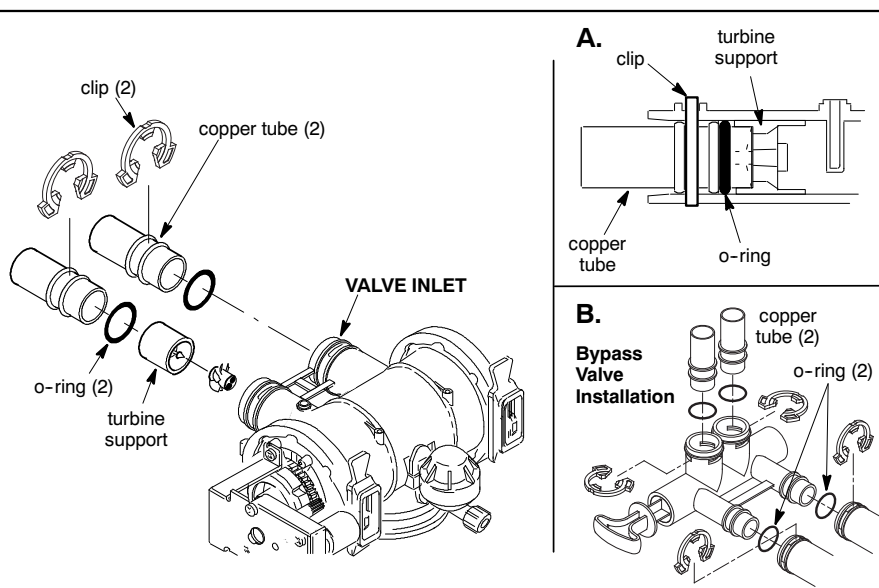

FIG. 5
b. Slide a lubricated o-ring seal onto each of the copper tubes. Carefully insert the copper tubes into the bypass valve (See Figure 5B), or into the conditioner/refiner valve (Figures 5 & 5A). Then install the "C" clips.